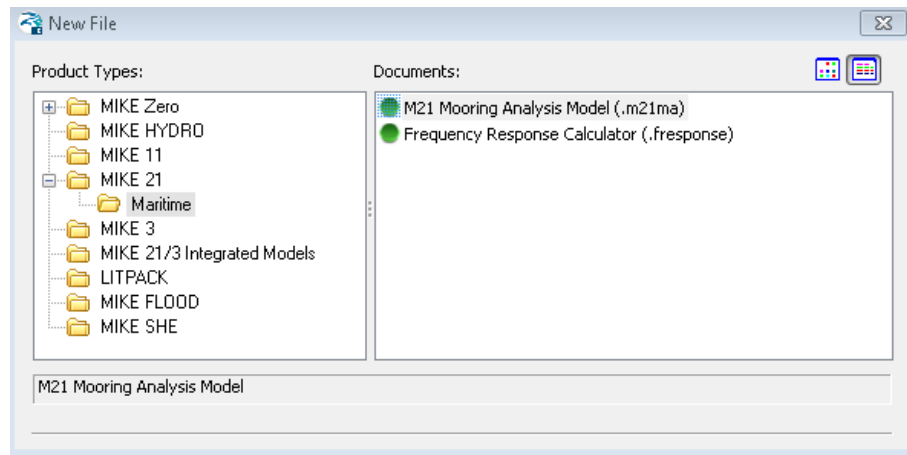
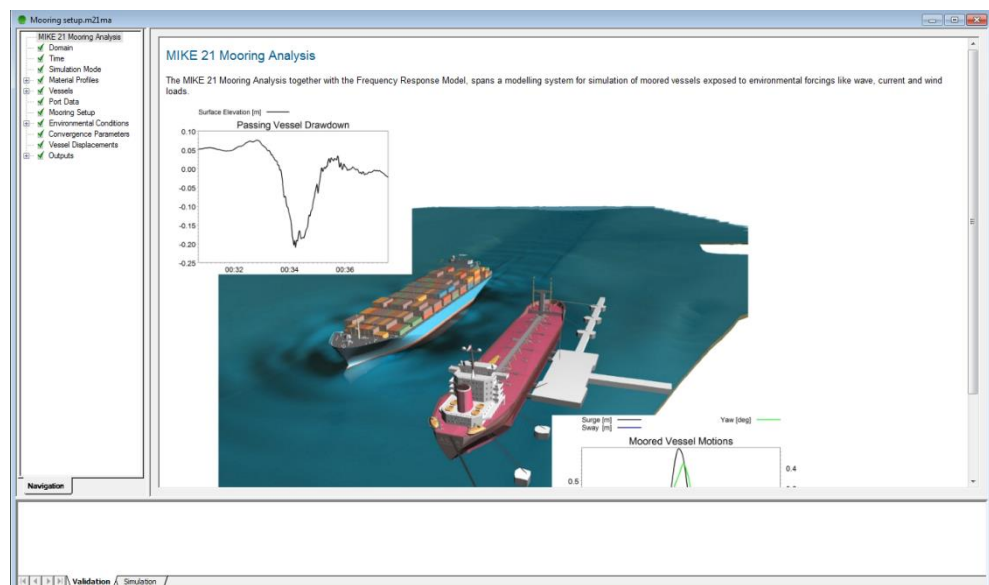

Figure 2.8 Location of MIKE 21 Mooring Analysis setup editor
Figure 2.9 M21 MA main page
1. Open a new instance of the (.m21ma) editor as shown in Figure 2.8 by clicking **OK**. The M21 MA main page (Figure 2.9) should appear on the screen.